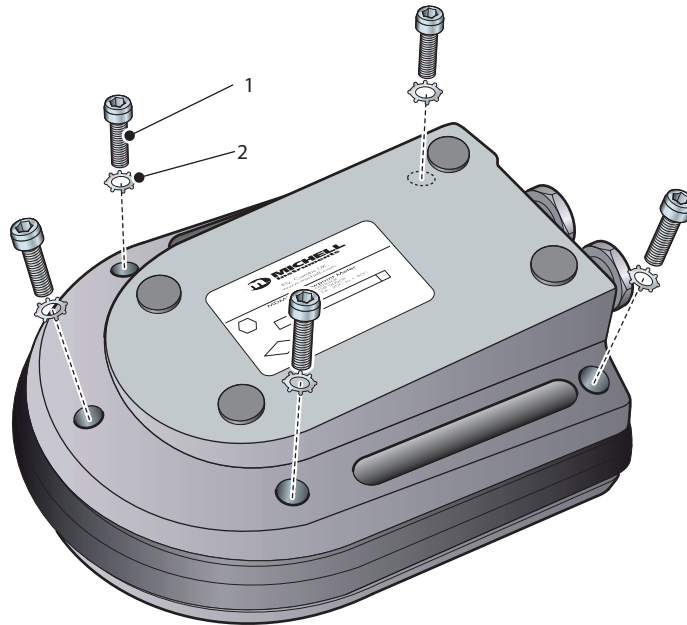

Figure 1 *Remove Case-Securing Bolts*
To gain access to the internal sensor and the battery housing, proceed as follows (refer to *Figure 1*).
4. Using an Allen key, sequentially remove the five cap screws (1) and washers (2) (see *Figure 1*).